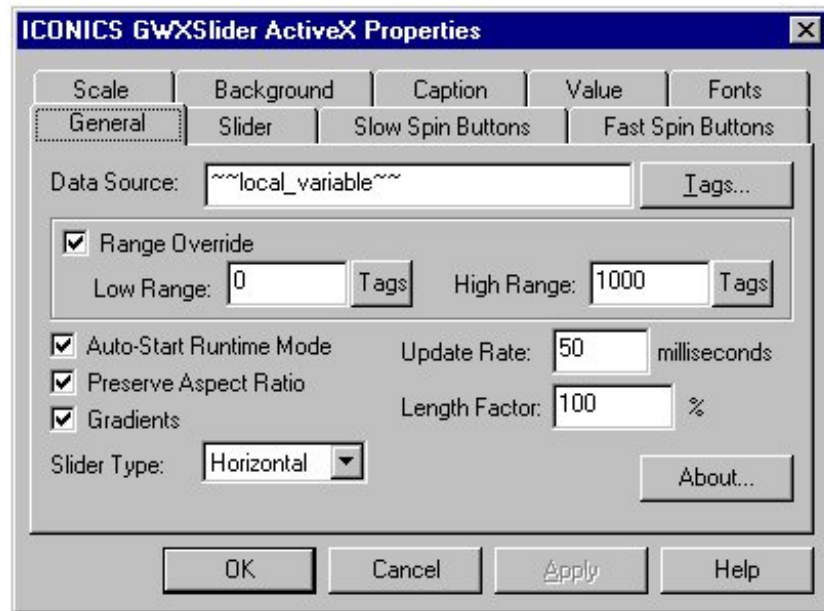

Figure 17-13: GWXSlider ActiveX Properties Dialog Box: General Tab
1. Double-click on the GWXSlider ActiveX control. The GWXSlider ActiveX Properties dialog box appears (Figure 17-13).